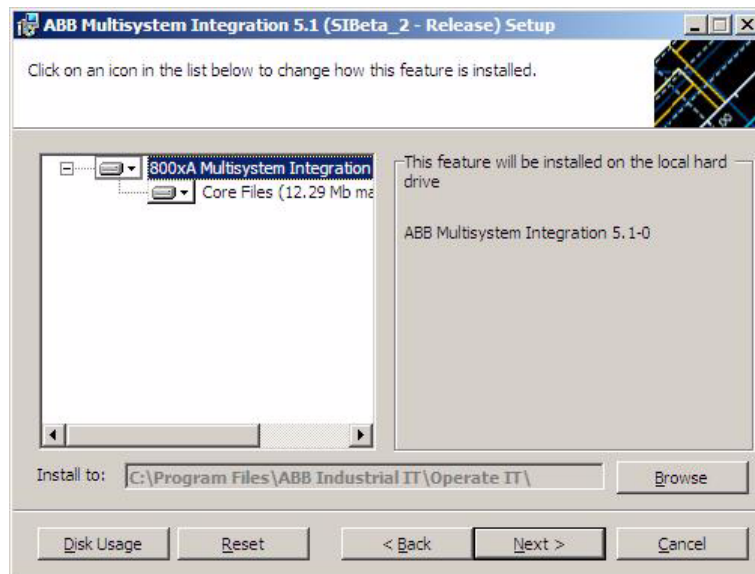

Figure 4. Installation Path
4. Click **Browse** to change the path of installation directory, see Figure 4.